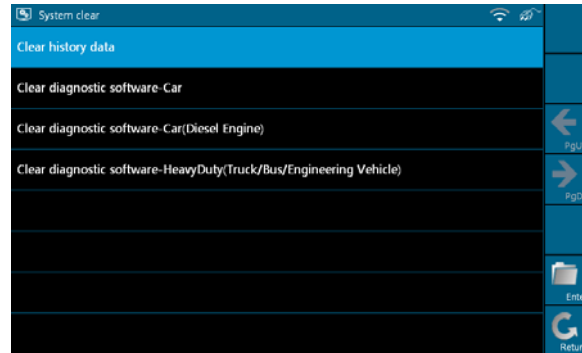
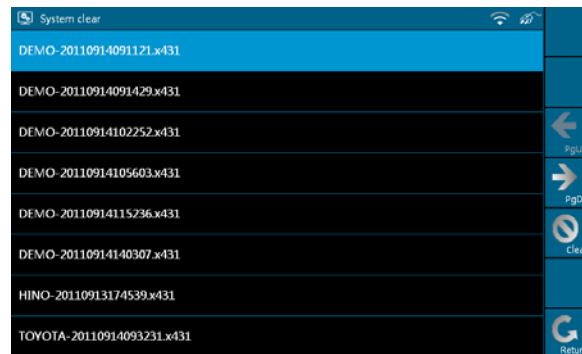

Figure 2-24
Figure 2-25
Click [Diagnostic] to enter Figure 2-24.
1. In Figure 2-24, select [Clear history data] and click [Enter] to enter Figure 2-25. Select one item that you want to clear and click [Clear].
Click [OK] in the dialog box shown as Figure 2-25, and the item will be cleared successfully.
- On figure 2-24, select [Clear diagnosis software-Car] and click [Enter]. Select one car model that you want to clear, as shown in Figure 2-27 and click [Fast Clean].